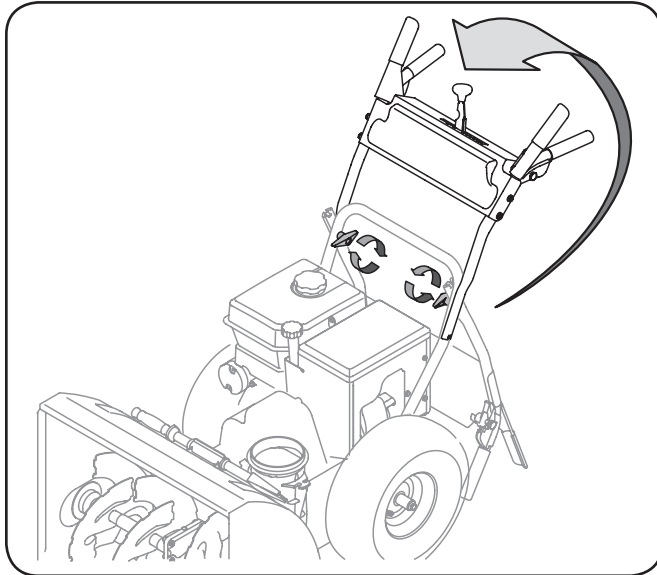

Figure 3-11
2. Observe the lower rear area of the snow thrower to be sure both cables are aligned with roller guides before pivoting the handle upward. See Figure 3-11.